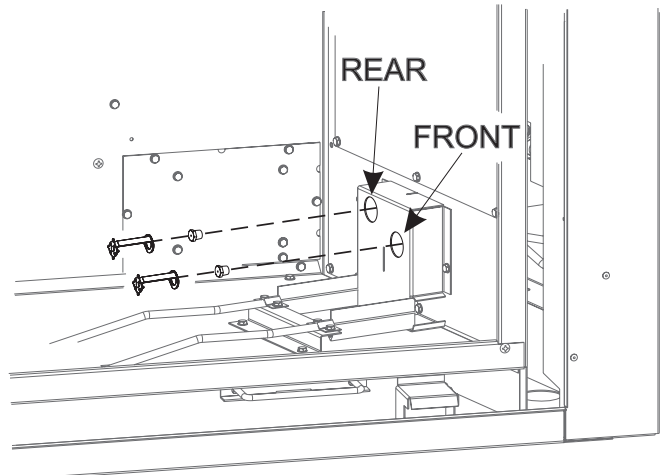

Figure 6
7. Locate the orifice marked "2.40." Use a 7/16 inch deep socket set to install orifice marked "2.40" onto rear orifice holder. Use needle-nose pliers, screw rear target onto rear orifice holder. (Figure 6)
8. Locate the orifice marked "48." Use a 7/16 inch deep socket set to install orifice marked "48" onto front orifice holder. Use needle-nose pliers to screw front target onto orifice holder. (Figure 6)